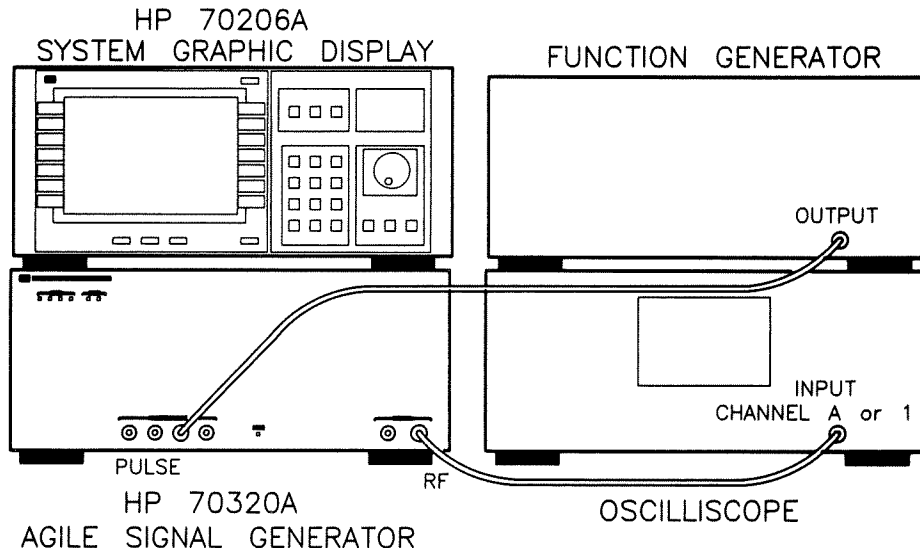

Figure 2-7. Equipment Setup for Pulse Modulation Procedure.
1. Connect the HP 70320A to the Oscilloscope and Function Generator as shown in figure 2-7. Turn on the equipment and make the following adjustments: